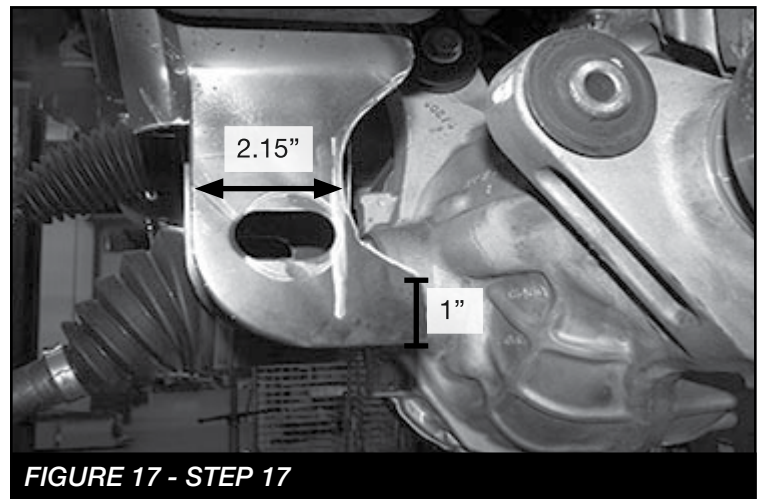

FIGURE 17 - STEP 17
17. Still working on the driver side rear lower control arm pocket, locate the tab on the pocket towards the rear of the vehicle. You will need to cut and sand a radius in the rear side of the pocket in order to clear the differential housing. **SEE FIGURE 17**